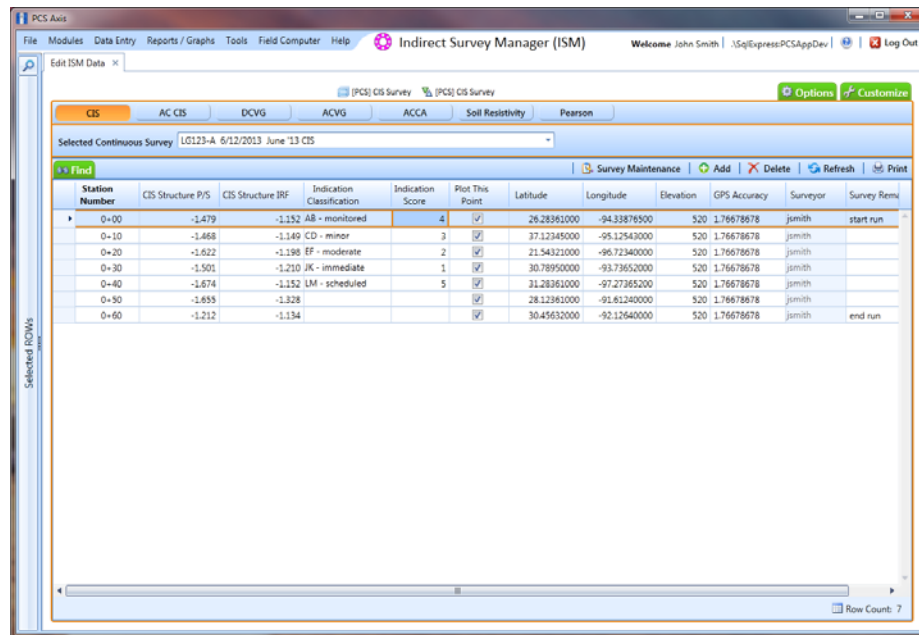

Figure 6-46. Edit ISM Data
- 4 Click a button labeled with the type of continuous survey data you want to work with, such as the **CIS** button  (Figure 6-46).